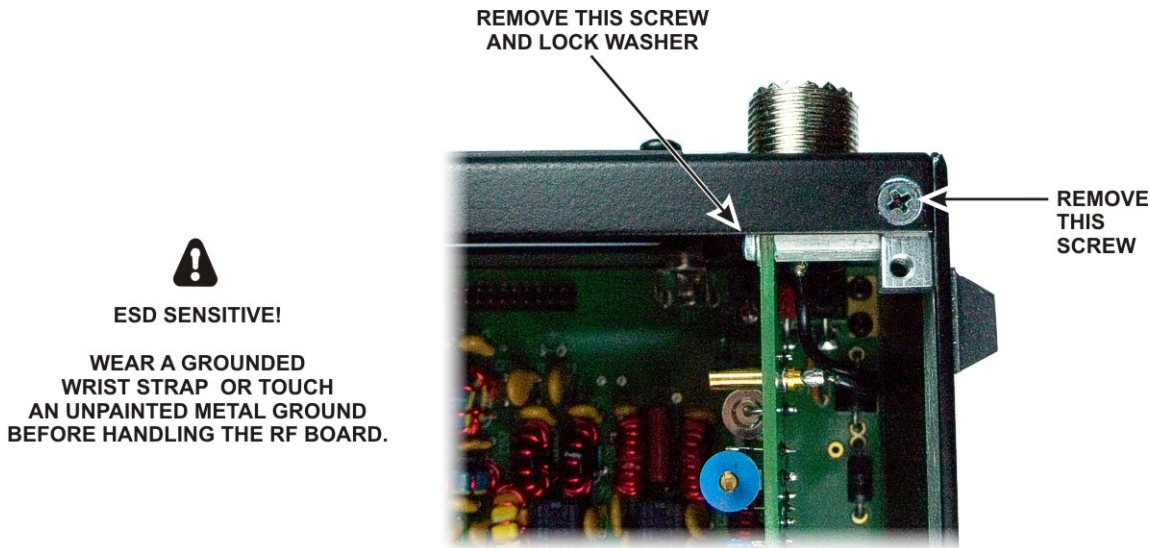
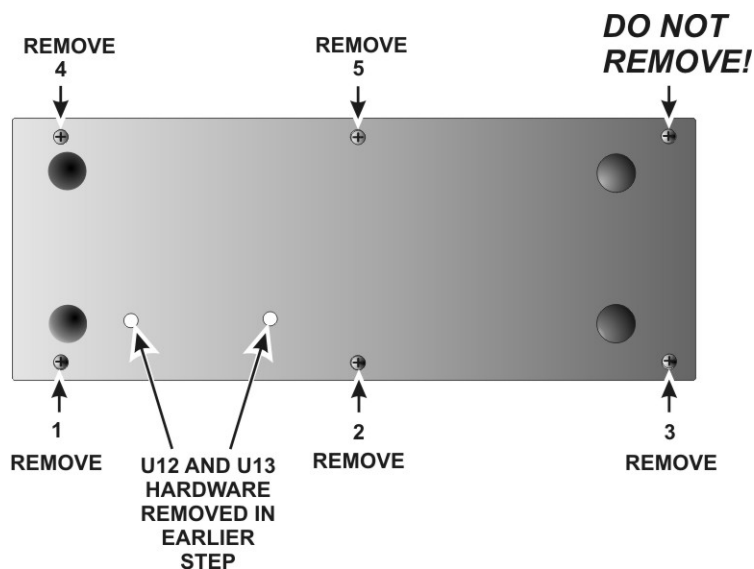

Figure 31. Removing Side Panel Hardware, Part 1.
Figure 32. Removing Side Panel Hardware, Part 2.
☐ Remove the screw holding the KANT3 (or, if installed, the optional KAT3) board to the standoff and the screw holding the 2D fastener to the rear panel near the SO239 antenna connector shown in Figure 31. Do not lose the lock washer inside the K3. It is easier to keep the hardware from falling inside if you set the K3 on its side feet and remove the screw and lock washer holding the KANT3 or KAT3 board first, then set it on its bottom feet and remove the flat head screw from the 2D fastener.
☐ Remove the five screws shown in Figure 32 from the right side panel to release it. Screw 5, which holds the end of the stiffener bar, already will be out if you're performing the initial installation of the KRX3. The side panel will lift off with the 2D fastener and standoff shown in Figure 31 attached.
Replace the right side panel on the K3, installing the 4-40 3/16" flat head screws shown in Figure 32 except for screw number 5. It will be replaced later with the stiffener bar.
Replace the 4-40 1/4" (6.4 mm) zinc pan head screw and washer that holds the KAT3 board to the standoff as shown in Figure 31.
- Replace the 4-40, 3/16" (4.8 mm) black flat head screw that secures the back panel to the 2D fastener as shown in Figure 31.